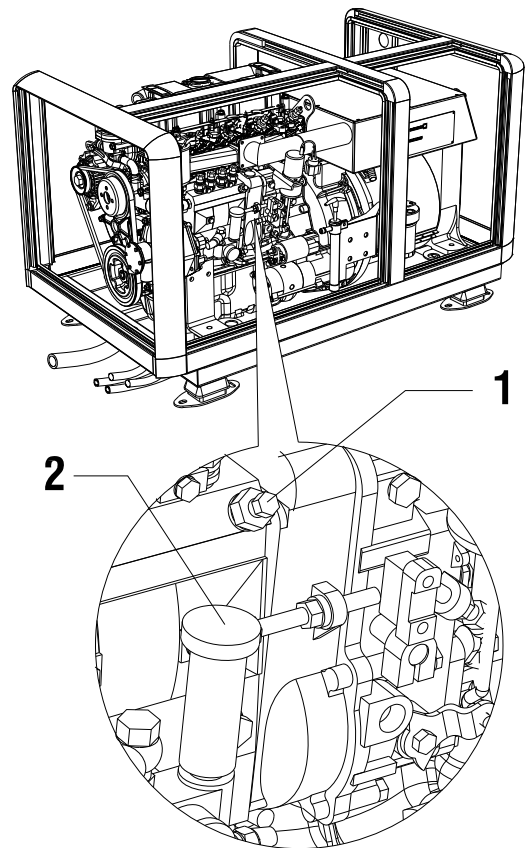

Fig. 16: Bleeding fuel lines
- 2 Loosen the air bleeding screw (1) 1,5 turns . See Fig 16.
- 3 Unlock lift pump plunger (2) (See fig 16) by turning it to the left.
- 5 Lock lift pump plunger (2) (See fig 16) by pushing it full down and turning it to the right.
- 6 Tighten the air bleeding screw (1)